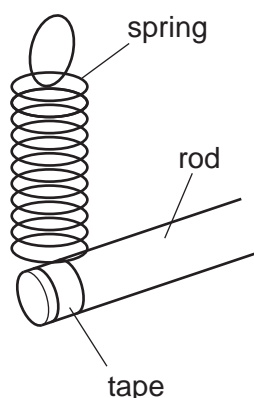

Fig. 1.1
- 1 One end of the spring should be secured to one end of the rod, so that it does not slip, for example as shown in Fig. 1.1.